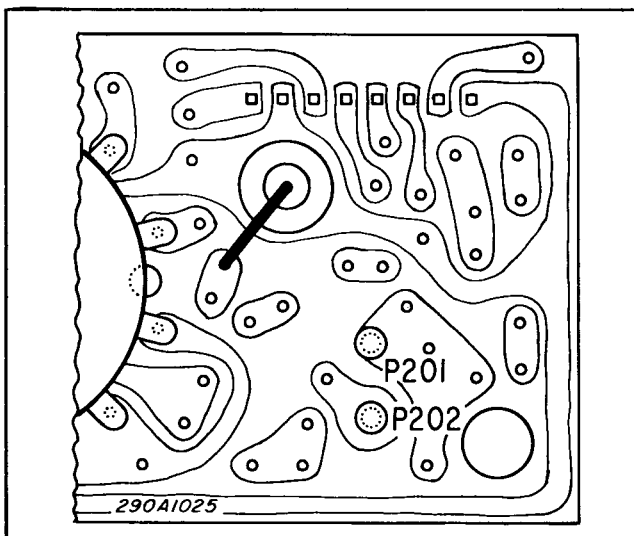

Figure 3-6. P201 and P202 Location.
3. Solder a length of AWG 22 bare wire between P201 and P202 on the foil side of the Front Circuit Board in the Siren Module. See figure 3-6 for the location of P201 and P202.